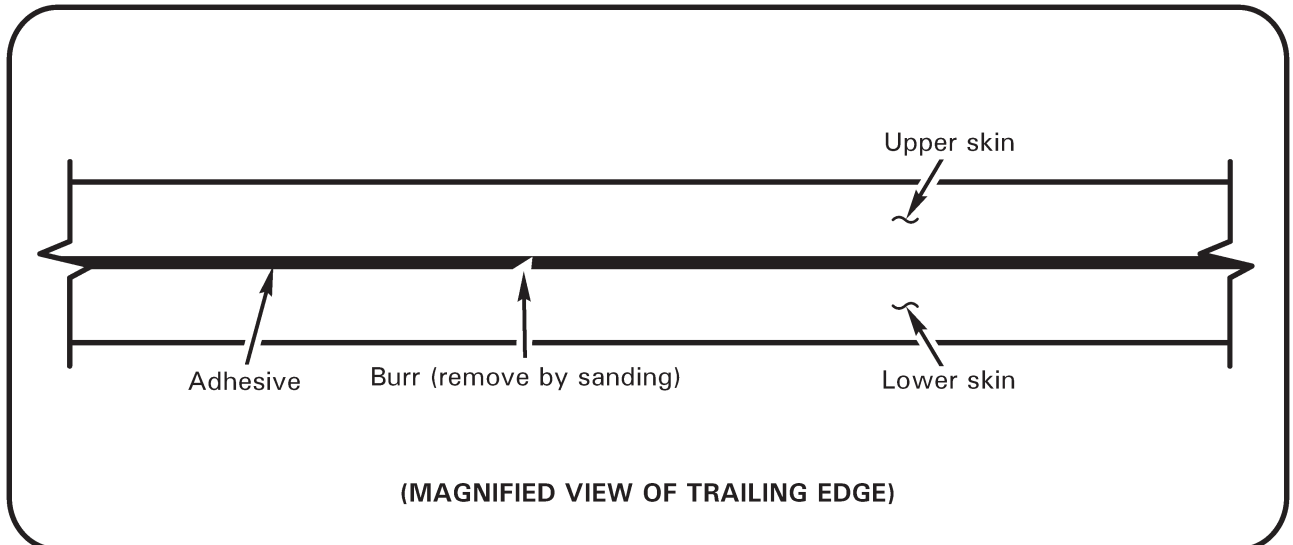

FIGURE 4
10. Refer to Figure 4. Clean bare metal with a lint-free cloth dampened with acetone. Using 10x magnification and a bright light, visually inspect bare metal area and 2.0 inch radius in particular for no sealant, nicks, or residual file marks. Verify no metal burrs protruding into adhesive layer from either upper or lower skin. Verify uniform bare metal finish with only fine, spanwise sanding marks remaining.